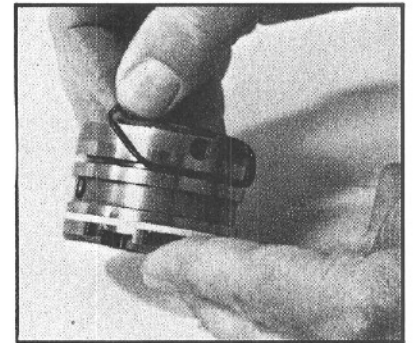
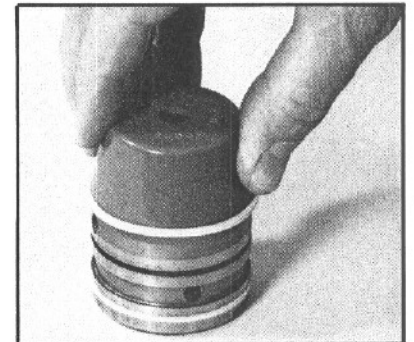

Figure 114
Figure 115
16. Grease the two new backup O-rings (14) and the two new Teflon seal rings (13). Using seal installation tool J26647, assemble the backup O-rings (FIG. 114), and then the seal rings onto the valve sleeve (15) (FIG. 115).